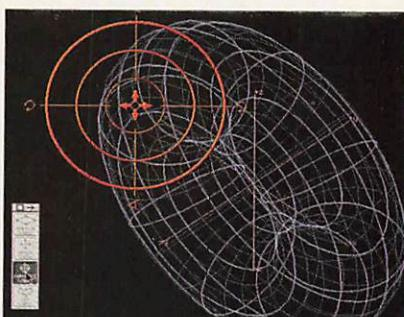
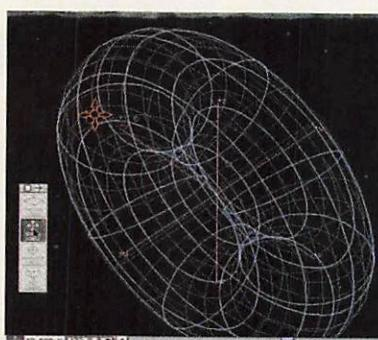

FIGURE 6. The awkward Navigate Tool, ripe for improvement.
FIGURE 7. Walk View can be handy but is strange to get used to.
**Navigation & Documentation** Navigation is a critical aspect of any program. Unfortunately, form-Z 3.0's new navigation tools—Set View, Navigate View, and Walk View—are not up to par. Set View (Figure 5) now has a dialog box so you can choose the point around which the current scene will be rotated. This seems to work differently on Mac and Windows—a drag for dual-platform users. Navigate View (Figure 6) pops up a strange target icon with different select and drag options. I spent a lot of time figuring out which one did which thing. Walk View (Figure 7) works well; it spins an object about its axis with a single click. Match View is form-Z's perspective-matching tool, retained from an earlier version.